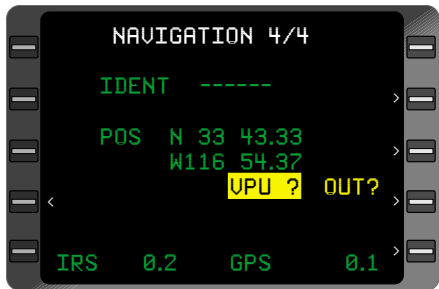

Figure 3-193
3. **BACK** Key - DEPRESS. **OUT?** will appear to inform the pilot of the pending change. (Figure 3-193)